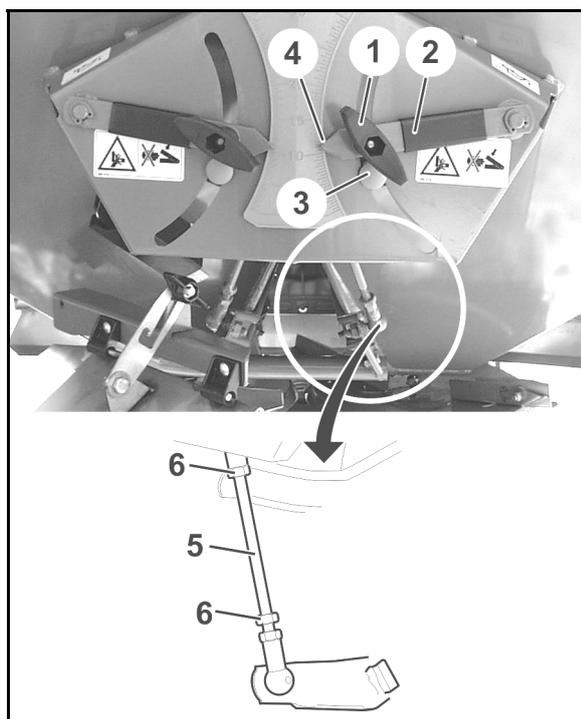

Fig. 98
5. After the thumb nut is unscrewed (Fig. 98/1), the setting lever (Fig. 98/2) must come to rest against the stop (Fig. 98/3).
- In this position, the read-off edge (Fig. 98/4) must display the value of "11" on the scale for the slider position.
If this is not the case, modify the position of the stop (Fig. 98/3) by twisting the connecting rods (Fig. 98/5) accordingly:
7. Unscrew the lock nuts (Fig. 98/6) of the connecting rods (Fig. 98/5).
8. Twist the connecting rod until the stop (Fig. 98/3) rests against the setting lever (Fig. 98/2).